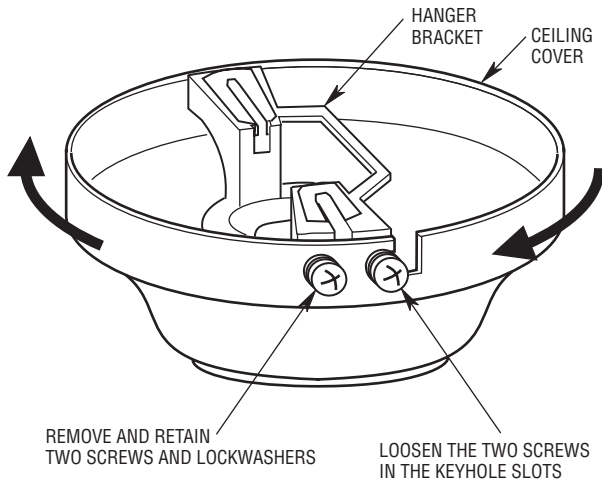

Figure 1
1. Loosen the two screws in the keyholes slots of the ceiling cover. Remove and retain the other two screws and lockwashers (Figure 1).